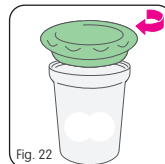

Fig. 22
- Unscrew the Storage Solution and close securely with the lid (Fig. 22).